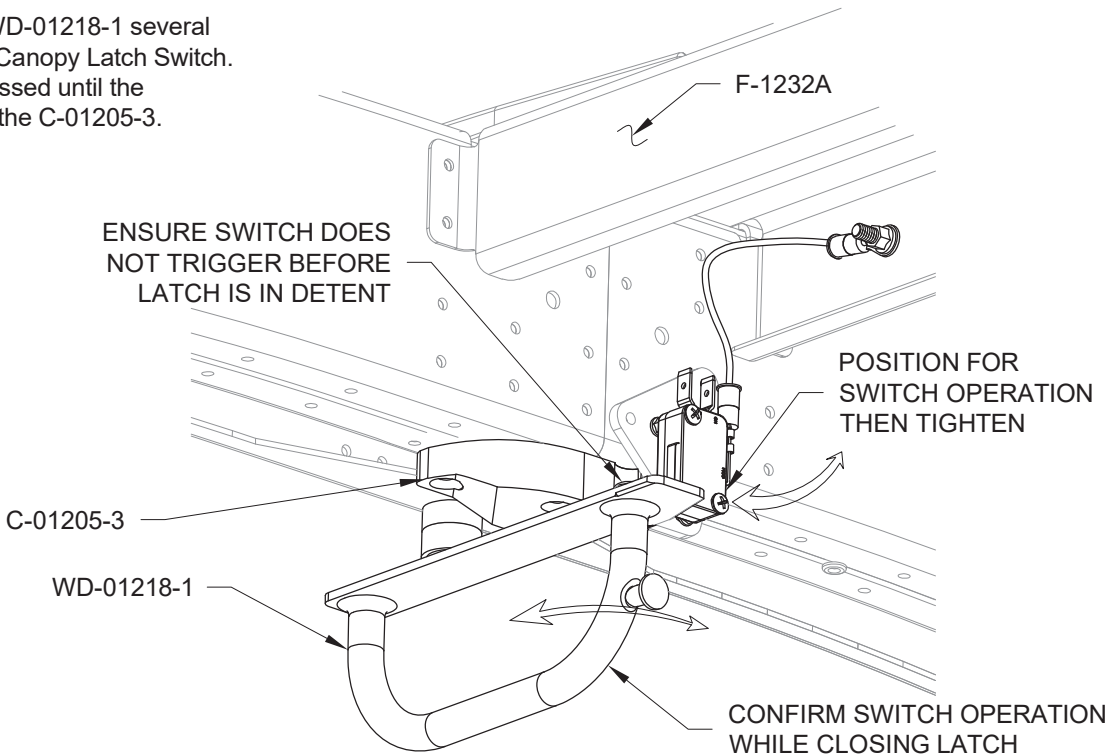

FIGURE 3: POSITIONING CANOPY LATCH SWITCH
Step 7: With the canopy shut and the WD-01218-1 Canopy Latch fully latched, pivot the Canopy Latch Switch towards the WD-01218-1 until the arm on the switch depresses the button underneath (there will be an audible click). See Figure 3.